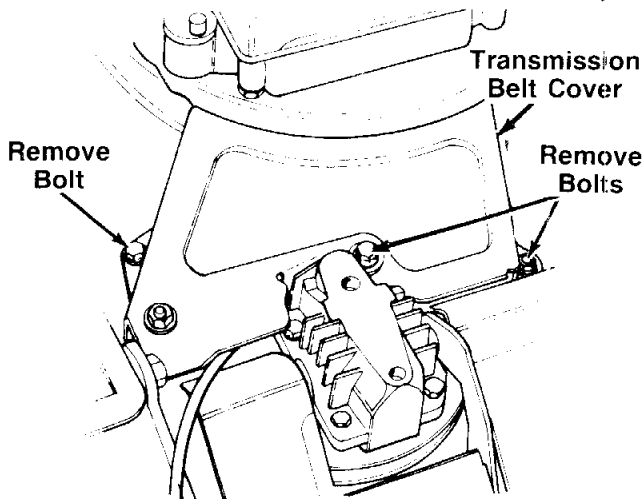

FIGURE 28.
3. Remove the transmission belt cover by removing three bolts. See figure 28.